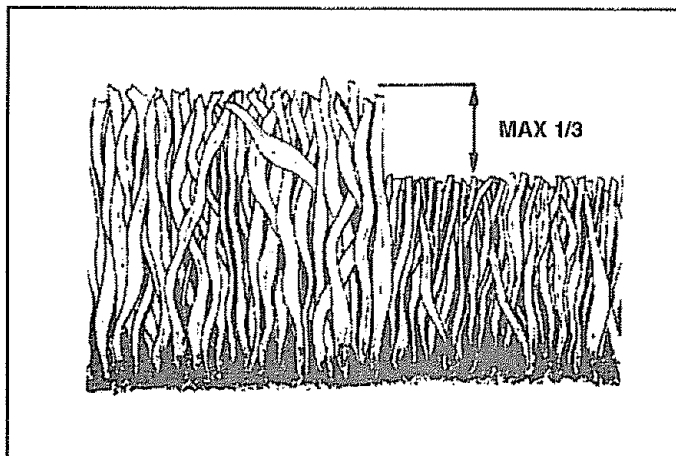

FIG. 10
- For best results, adjust the lawn mower cutting height so that the lawn mower cuts off only the top one-third of the grass blades (See Fig. 10). If the lawn is overgrown it will be necessary to raise the height of cut to reduce pushing effort and to keep from overloading the engine and leaving clumps of mulched grass. For extremely heavy mulching, reduce your width of cut, mow slowly and raise the rear of the lawn mower one wheel adjuster setting higher than the front.